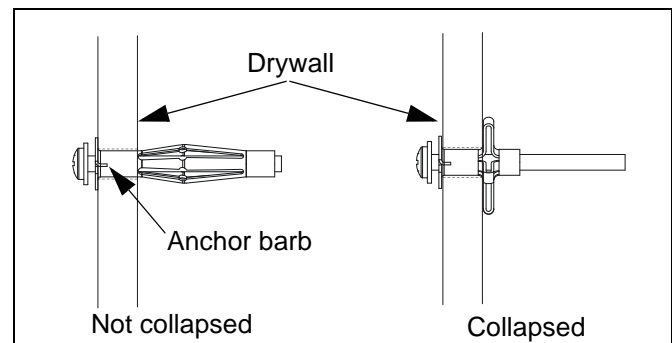

Figure 3: Drywall Anchor
4. Insert anchor (20) into anchor hole and seat with gentle tapping from hammer. Anchor barbs should be fully engaged in drywall (See Figure 3).